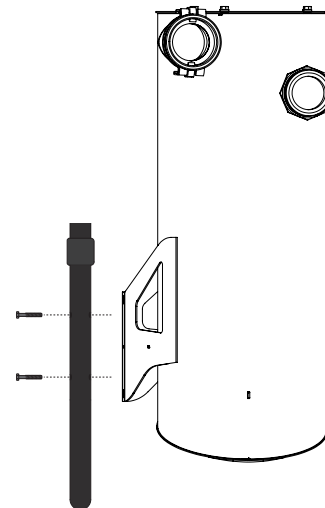

FIG. 4
Align the Cyclonic Pre-Separator's (A) side support brace to the side holes on the CC500's handle and secure in place using two 2" Hex Head Bolts [FIG. 4]